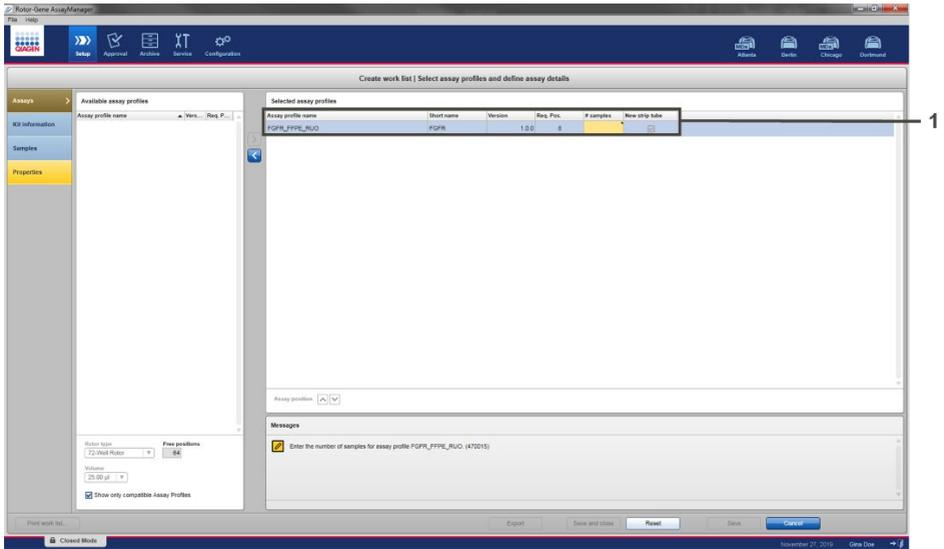

Figure 8. Create work list main window. 1 = Add the number of samples in the “Assay profile name”.
4. In the Selected assay profiles window, enter the number of test samples to be tested excluding the number of run controls (Figure 8).